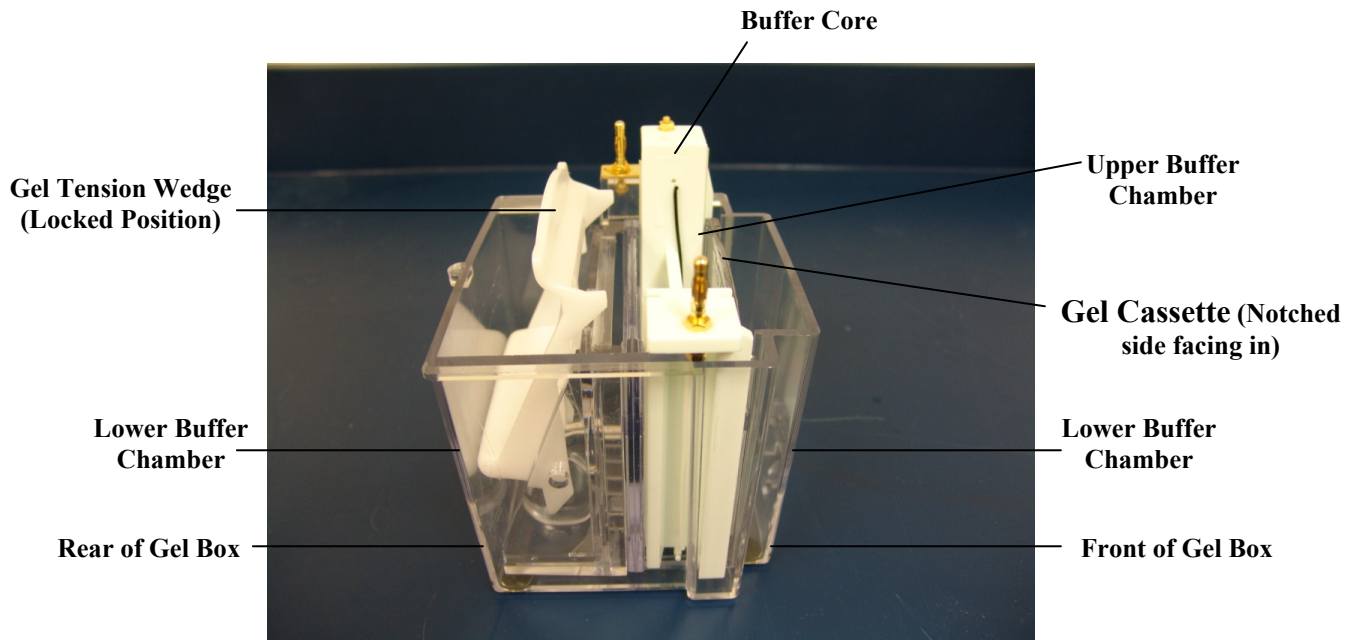

Figure 2: Assembled Gel Box Side View
- 8.1.9. Slide Gel Tension Wedge into the lower buffer chamber behind the buffer dam (or behind second gel) with the tapered end pointing up. See Figure 2.
- 8.1.10. Pull forward (toward the front of the unit) on the Gel Tension Lever until lever comes to a firm stop and the gels or gel/buffer dam appear snug against the buffer core. See Figure 2.
9.2. Figure 2: Assembled Gel Box Side View